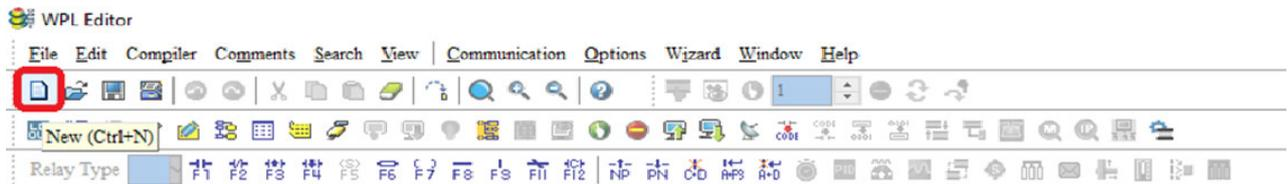

Figure 16-4
Step 3: Click on the  icon on the toolbar: opens new file (Ctrl+N), see figure 16-4 below.